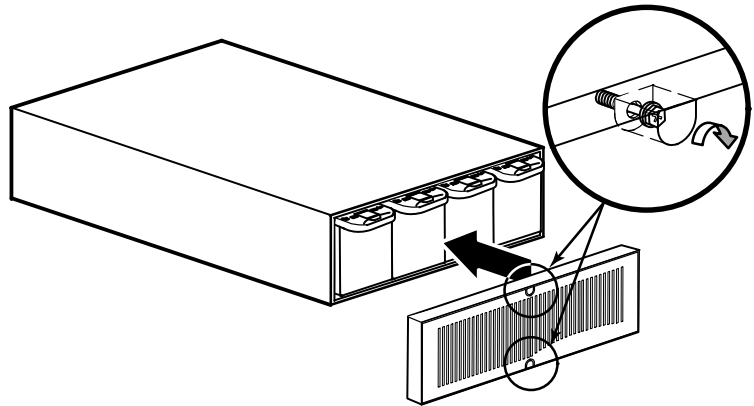

Figure 13. Replacing the EBM Front Cover
4. Replace the EBM front cover and tighten the two front cover screws (see Figure 13).